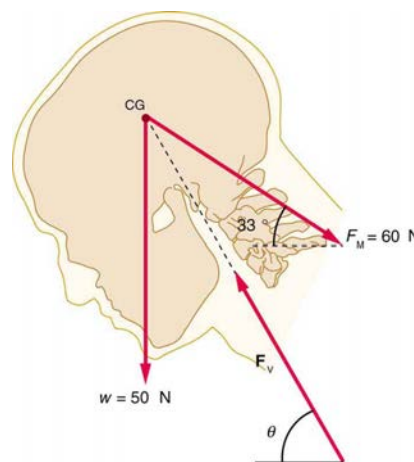

Figure 9.40
30. A person working at a drafting board may hold her head as shown in **Figure 9.40**, requiring muscle action to support the head. The three major acting forces are shown. Calculate the direction and magnitude of the force supplied by the upper vertebrae F_V to hold the head stationary, assuming that this force acts along a line through the center of mass as do the weight and muscle force.